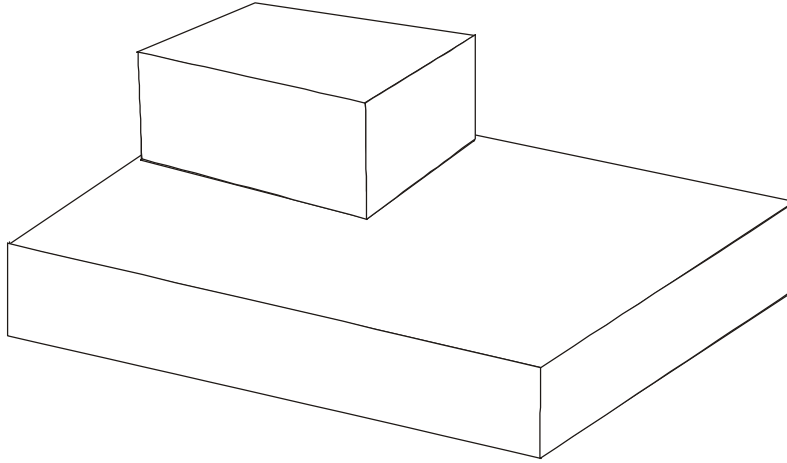

Figure 3-23. Transferring measurements from the orthographic view to the isometric drawing.
- b. Lightly lay out the specific shape of the object. Transfer measurements for the axis or line parallel to the axis directly from the orthographic views to the isometric drawing. See Figure 3-23.